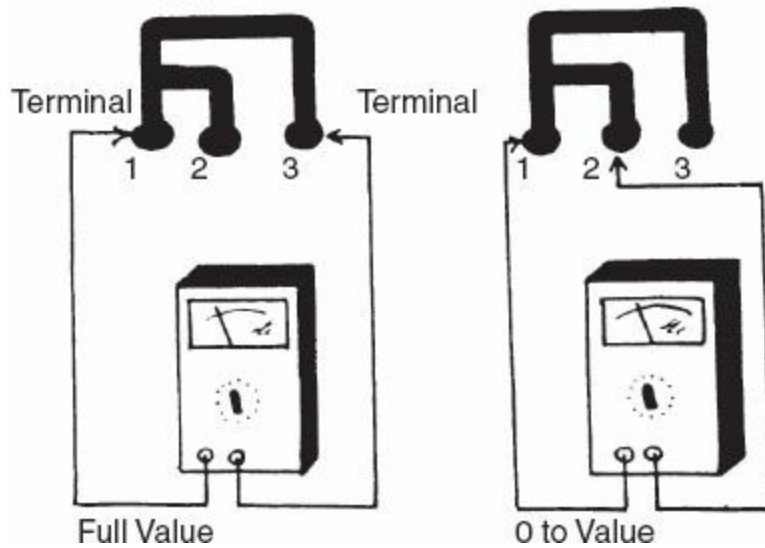

FIGURE 1.8 Checking the potentiometer by using an ohmmeter.
Variable resistors are called potentiometers, and they can be measured and tested in two simple ways. (1) One way is to use an ohmmeter to measure the value of the potentiometer across the two end terminals. The value should equal the value printed on the potentiometer. Place one lead on the center terminal and the other lead on one of the end terminals. The potentiometer, when turned, should vary the resistance accordingly (Fig. 1.8). (2) Another way to test a potentiometer is to turn the potentiometer while it is in the circuit. If a scratchy, rough sound is heard in the speaker, the potentiometer needs cleaning or replacing. To clean the potentiometer, turn off the power and spray an electronic component cleaner in the sliding contact area while turning the control back and forth.